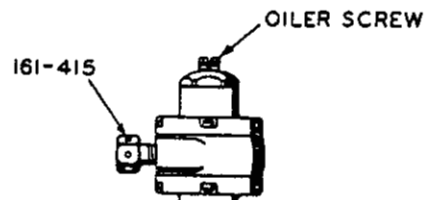

FIG. 5
2. Remove oiler from air motor top cap. See Fig. 5. Fill oiler with kerosene. Replace oiler.